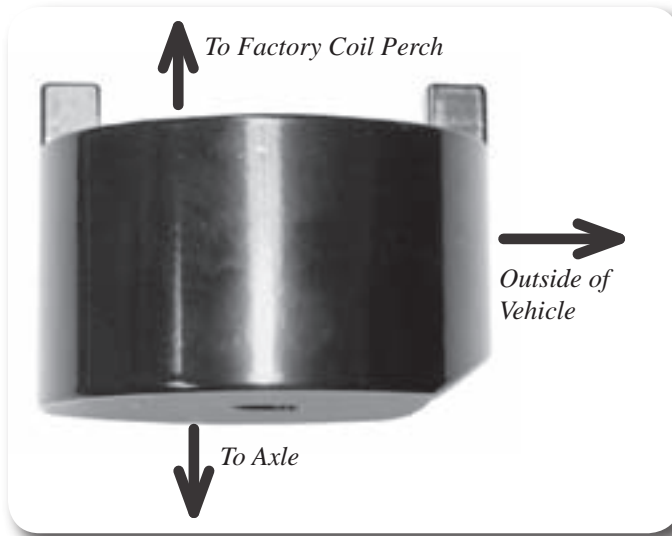

Figure 7
13. Apply thread locker to the supplied 14mm bolt. Install the factory coil perch in conjunction with the new spacer (Fig 7) on the axle. The chamfer in the block goes toward the outside and the upper tabs nest in the recesses in the coil perch. Fasten the assembly with the 14mm x 100mm bolt (14mm x 80mm for #J1101) and 9/16" SAE flat washer. Torque hardware to 95 ft-lbs.